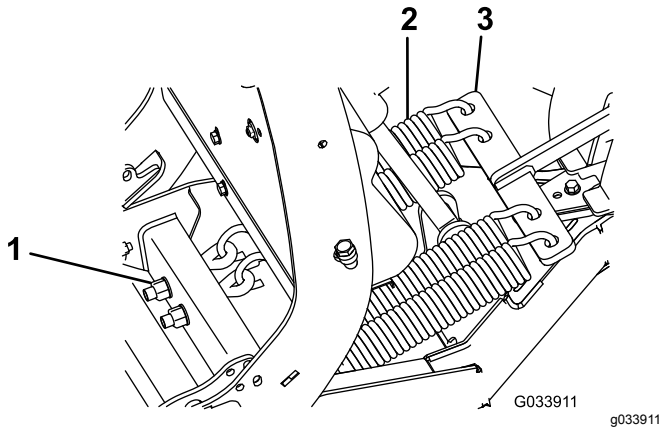

Figure 34
- Loosen and carefully remove the 4 lock nuts and 4 washers from the trip-spring eye bolts (Figure 34).